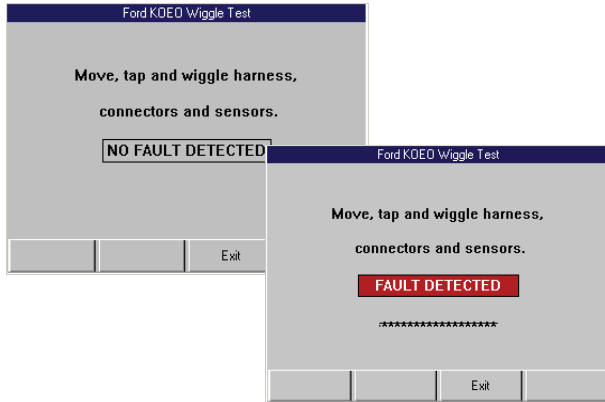

Figure 6.19: Wiggle Test Screens — No Fault and Fault Detected
- 7 Read the screens and follow all instructions. If necessary, use the **function keys** to answer any questions. Do this until the test screen appears (Figure 6.19 on page 34).